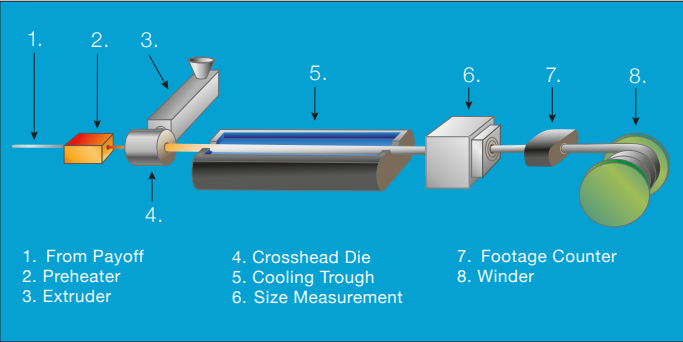

Figure 8: General Wire Coating Set-up
**Procedure:** The process of coating wire and cable by extrusion is diagrammed in **Figure 8**. TPU pellets are compacted and fluxed in the extruder barrel. The molten material is extruded in the crosshead at which point the direction of flow is changed 90°. It is in the crosshead that the wire, coming from the unwind and pre-heater, comes in contact with the molten TPU. The crosshead also holds the guide-tip and the wire die. The guide-tip keeps the wire centrally located in the molten insulation and the properly selected die controls the wall thickness of the final construction.